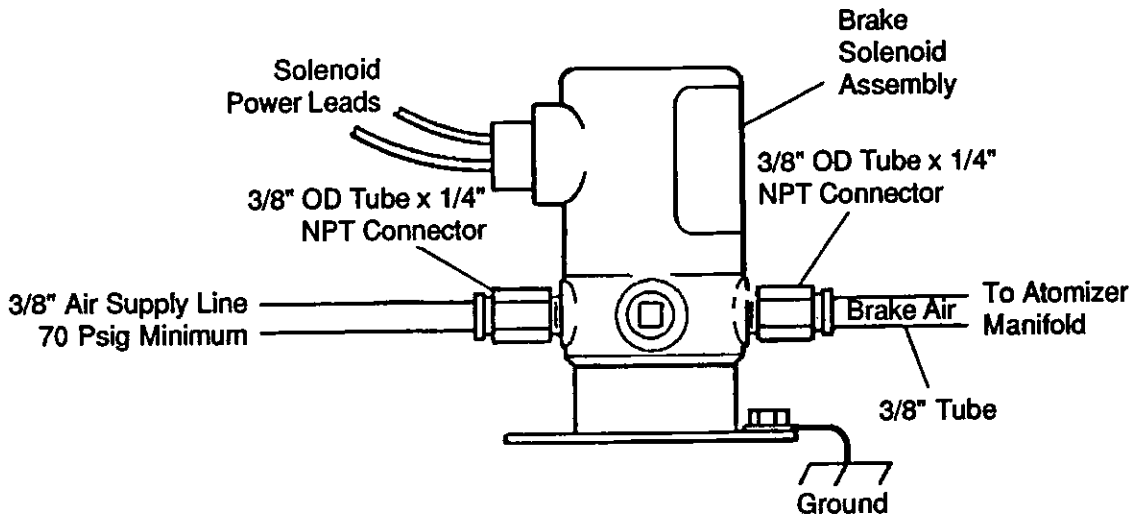

Figure 17. Air Brake Solenoid Assembly
1. Mount the brake solenoid assembly (Figure 17) to a suitable support outside of the spray booth.